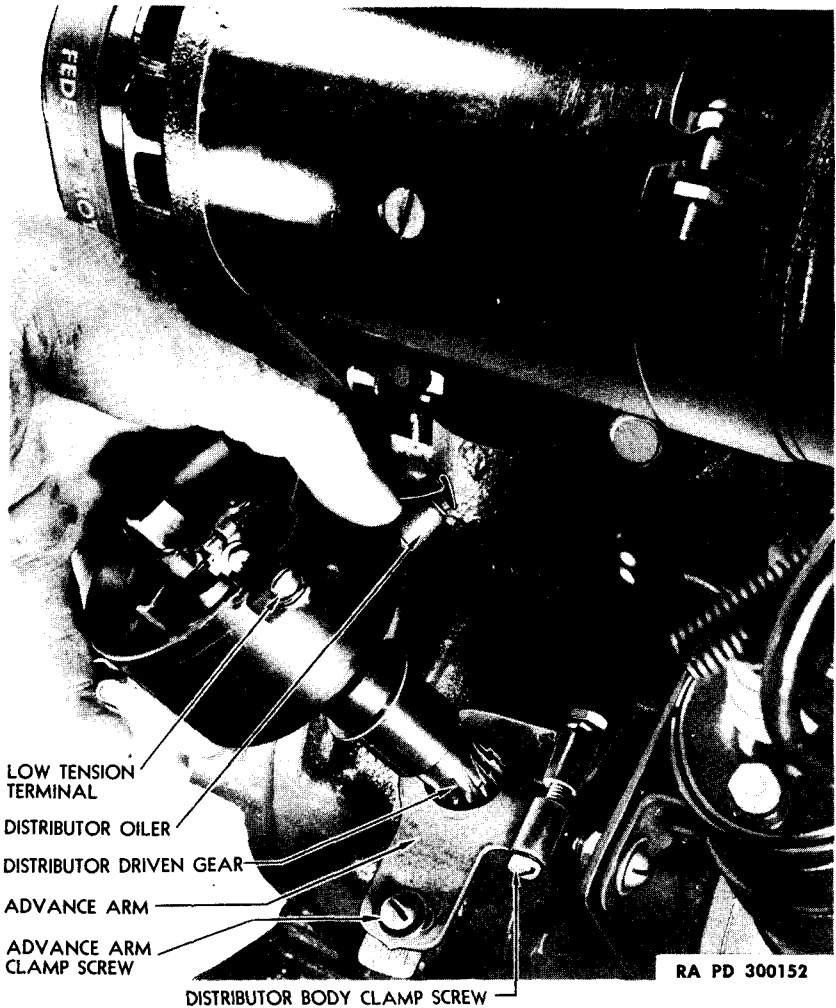

Figure 61—Installing Distributor Assembly
(3) **PRE-SET ADVANCE ARM.** Loosen advance arm clamp screw (fig. 61) and set advance arm pointer 1½ graduations to the left of center "0" mark. Tighten advance arm clamp screw to retain advance arm in position.
water pump housing. Have distributor body turned in same position as when removed (mark at right angles to engine center line, or low-tension terminal downward and to the right) (fig. 61), and place center of rotor strip about $\frac{1}{4}$ inch counterclockwise from No. 1 mark
just break contact, with rotor pointing to No. 1 mark on body. Exact time of point opening can be determined by using a very thin feeler of paper, or by watching the "break" indicated by a 6-volt test lamp temporarily connected across distributor points. Lamp lights when points separate or "break." Lock distributor body in No. 1 "break" position by tightening distributor body clamp screw (fig. 61). Install distributor cap, No. 1 spark plug, and spark plug high-tension leads.
(7) **BASIC ADVANCE ARM SETTING.** After setting distributor body by either method (steps (5) or (6) above), loosen advance arm clamp screw (fig. 61) and set advance arm pointer back to center "0" mark. This has the effect of advancing the ignition timing six degrees ahead of piston top dead center—the correct basic ignition timing setting.
(2) **MARK ROTOR POSITION.** Inside distributor cap note position of No. 1 terminal (par. 84 a (2)) and mark position on distributor body.
(4) **REMOVE DISTRIBUTOR.** Loosen distributor body clamp screw (fig. 61) in distributor advance arm on top of water pump housing, and withdraw distributor body assembly. Do not crank or rotate engine while distributor is removed.